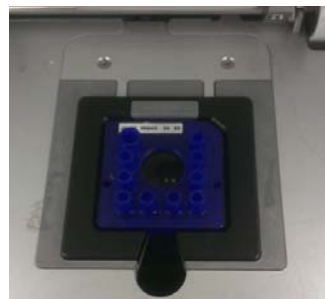

Figure 6. Chip in the LabChip GX Touch/GXII Touch instrument.
- 4 Insert the chip into the LabChip GX Touch/GXII Touch instrument (Figure 6) and close the chip door securely.